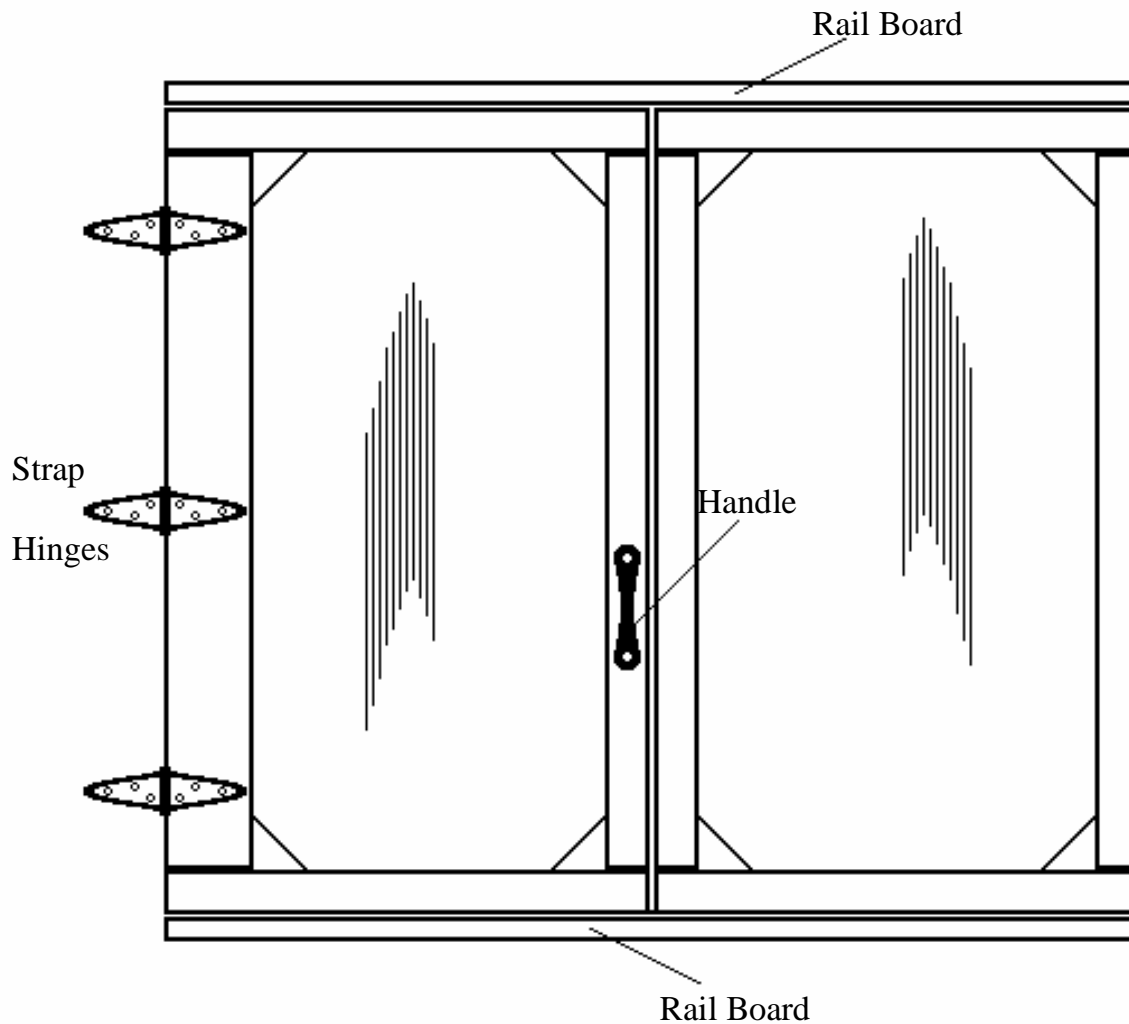

Fig. 3
- ◆ Once all four panels are assembled at the corners, place the cover (actually two clear panels hinged at the center) on top of the cold frame base with the strap hinges on top and to the left. Depress the spring retaining pins on the top and bottom of the right cover panel, allowing the cover to drop into position between the front and rear rail boards (See Fig. 3).